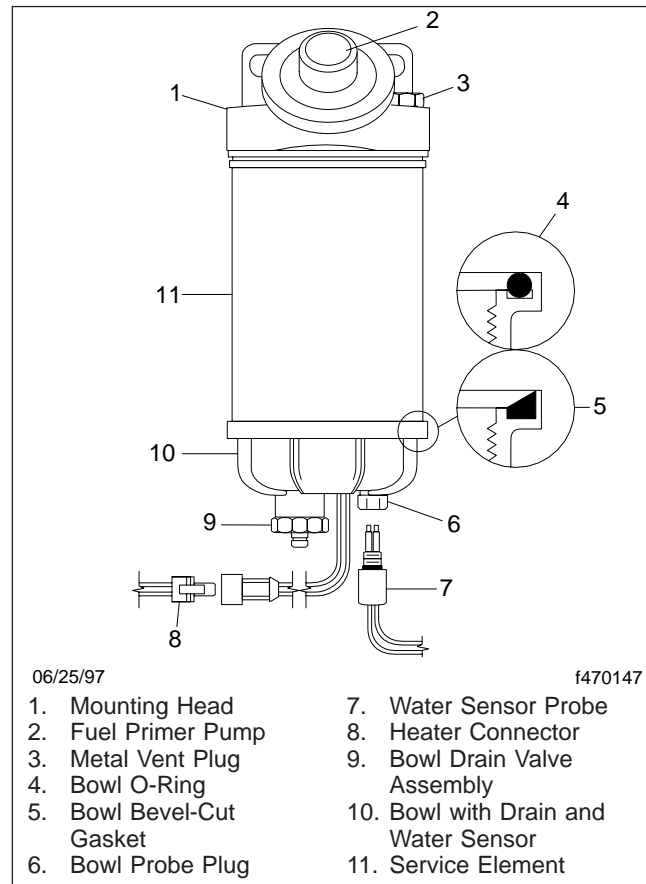

Fig. 4, Racor 490R Fuel Separator
1. Drain some fuel by loosening the vent plug and opening the drain valve. See Fig. 4.